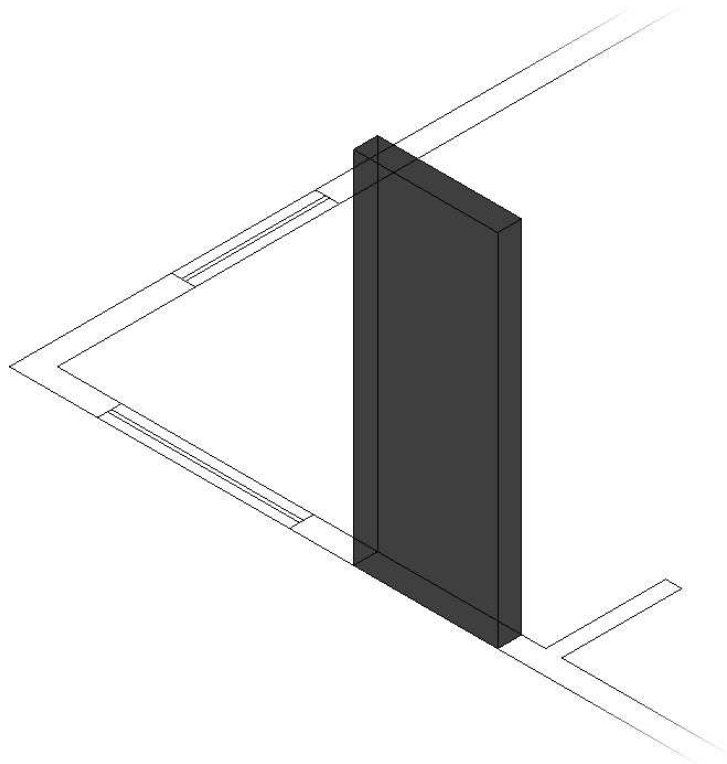

FIGURE 16.14: The first door operand created in place
8. At the Specify height or [2Point]: prompt, enter **7'6" (2286)**. The box appears in place (see Figure 16.14).